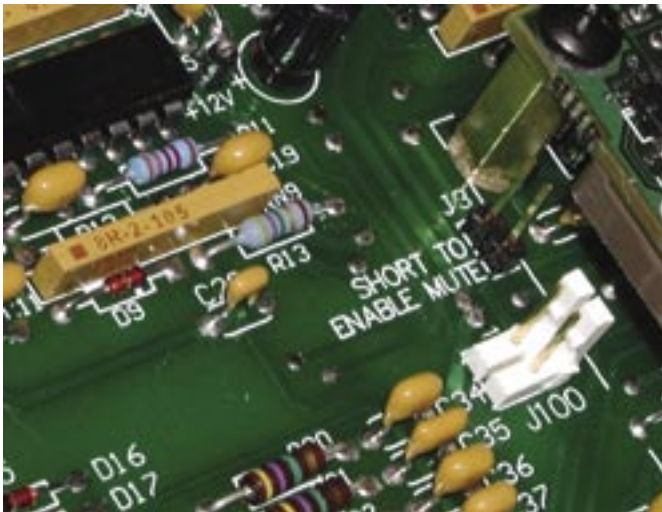

Figure 2.4. Location of the Mute jumper pins (not shorted)
2. Locate the two jumper pins on the circuit board labeled "short to enable mute" (Figure 2.4).